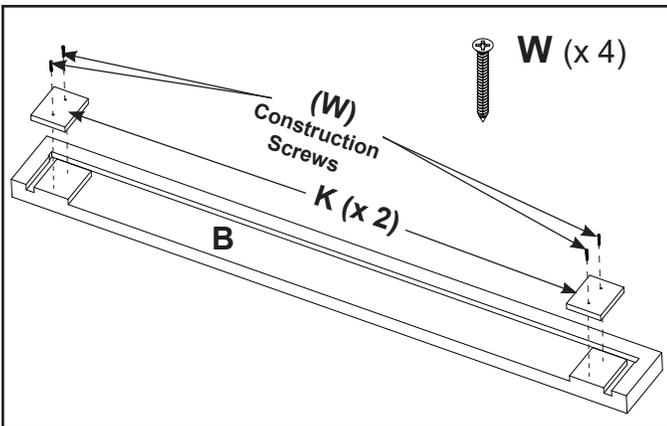

Figure 28
- Secure part "K" (x 2) to part "B" using two (2) Construction Screws (W) on each side. See Figure 28.